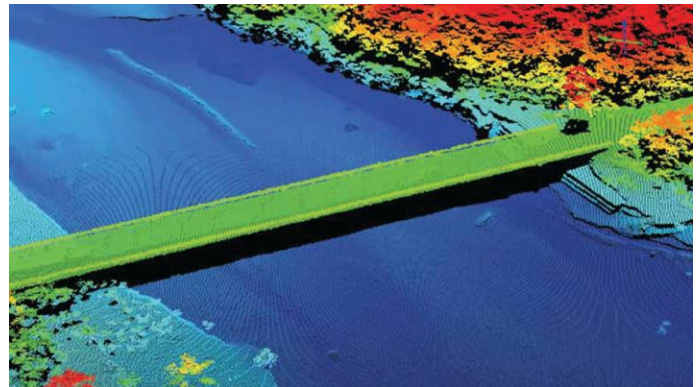

Figure 3. Sample data collected over Haiti using the ALIRT system (Image courtesy, Lincoln Laboratory, MIT).
- Determining conditions of roads and bridges (Figure 3)